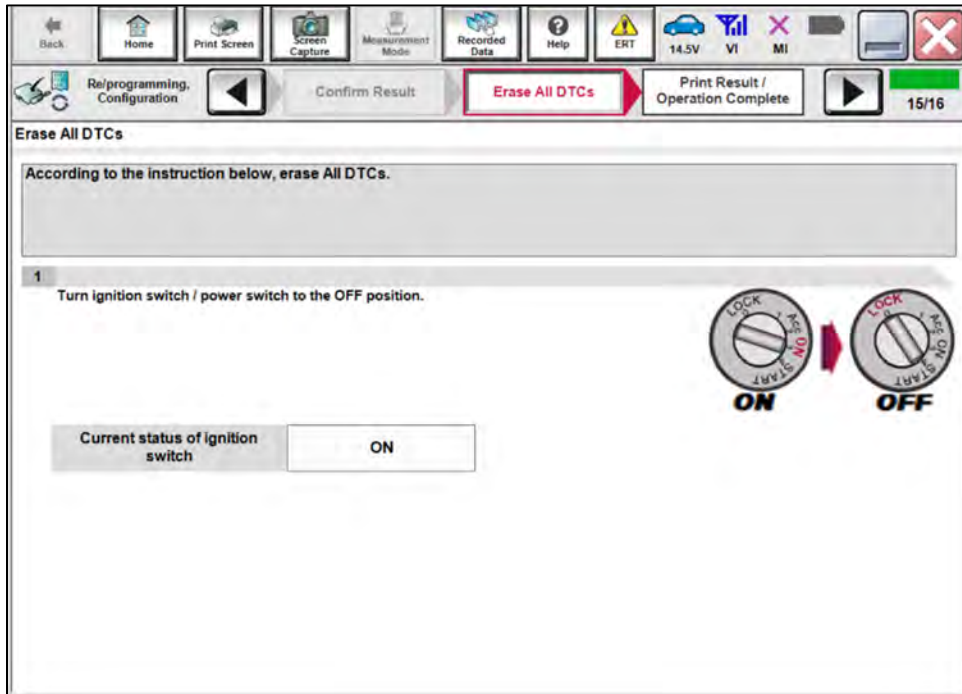

Figure 17
24. Press the power switch one (1) time to turn the EV system OFF (Figure 17), and then go to step 25 immediately.